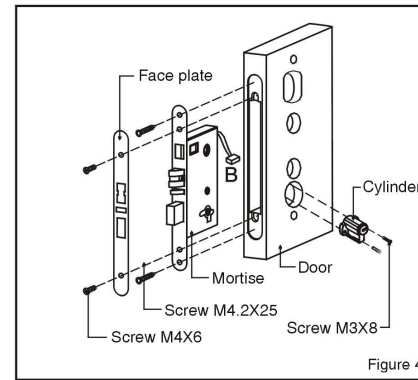

Figure 4
(1). As figure 4 shown, pull the lead-wire B through the hole on the door and fix the mortise with 2 pieces of screw M4.2X25. Cover the face plate on it and fasten it with 2 pieces of screw M4X6.